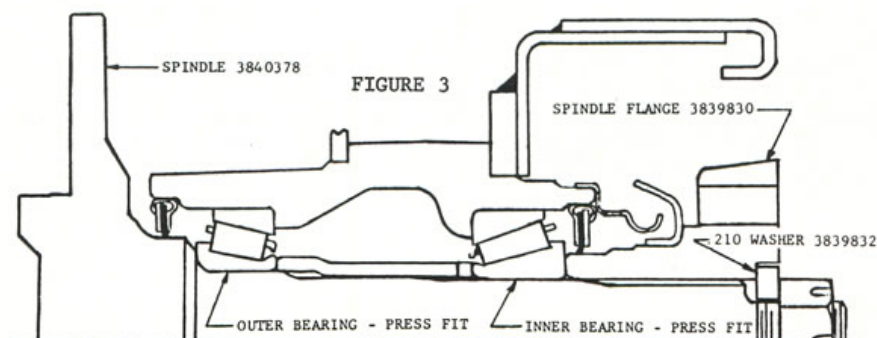

FIGURE 3
- D - Beginning with December 3, 1962 production, a new design spindle 3840378 replaced spindle 3817724. The new spindle incorporates interference fit inner and outer bearing diameters. This new spindle is used in conjunction with drive flange 3839830 and washer 3839832, and is assembled with 100 lb. - ft. drive flange nut torque (Figure 3).
### REAR WHEEL SPINDLE - DESIGN D - FIGURE 3